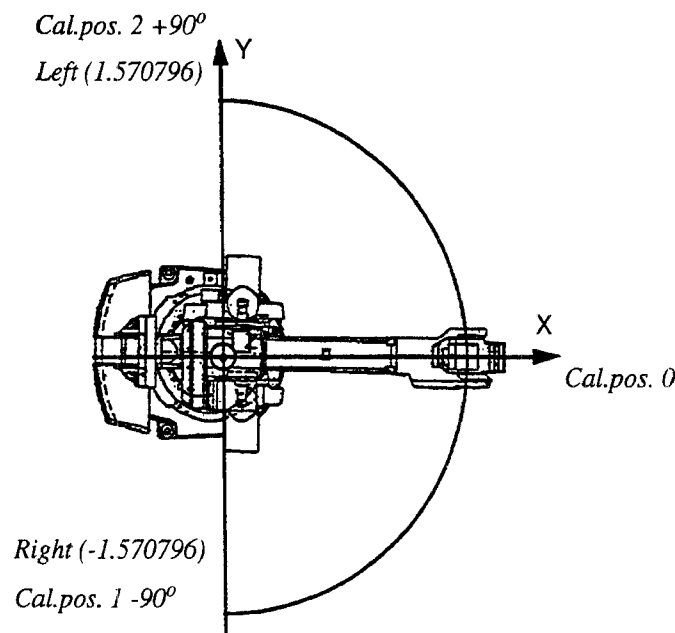

Figure 20 Calibration positions 0, 1 and 2 (Normal, Right and Left)
Run the program \SERVICE\CALIBRAT\CAL6400 on system disk IRB 2, (select the desired calibration position, Normal/Left /Right). See Figure 20. When the robot is calibrated, switch to MOTORS OFF. Check that the calibration marks for each axis are on the same level, see Figure 19. If they are not, the calibration must be repeated.
The robot must have been calibrated with calibration equipment at calibration position 0 for all axes (the robot is delivered with calibration position 0), see Figure 20, before it can be calibrated in one of the two alternative positions.
2. Run the calibration program again and select the desired calibration position (Left or Right), see Figure 20.
- Change Cal pos to 1.570796 or -1.570796 depending on selected calibration position. The angle is in radians, see Figure 20.